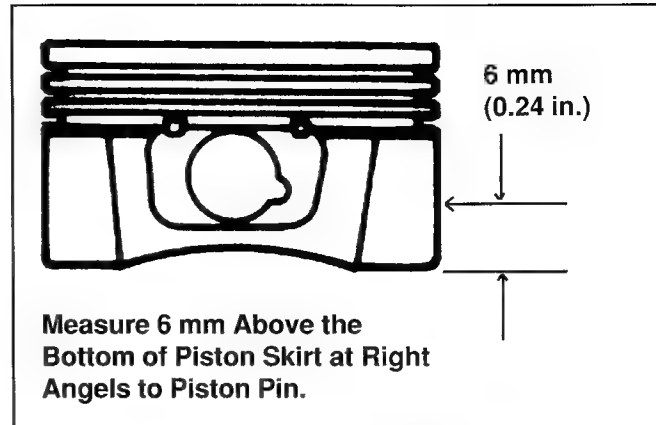

Figure 10-6. Measuring Piston Diameter.
1. Use a micrometer and measure the diameter of the piston **6 mm (0.24 in.)** above the bottom of the piston skirt and perpendicular to the piston pin. See Figure 10-6.